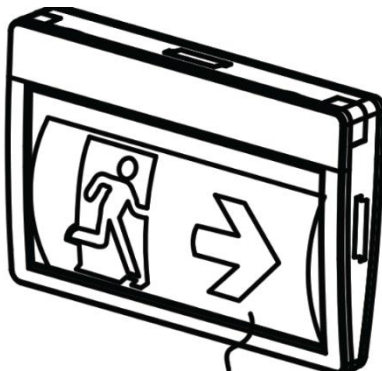

Fig 7
9. If pictogram direction assembled not suitable, pictogram can take out for change direction or replace pictogram, and then insert into the diffuser easily (see Fig 7).